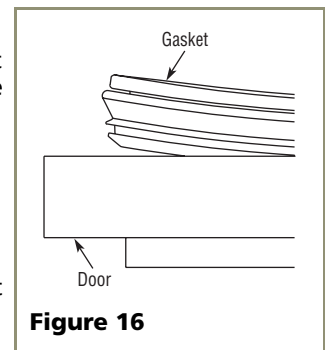

Figure 16
2. Pull gasket completely out of the groove. Start in the middle and pull outward, moving toward the edge (see **Figure 16**). This may take some force.